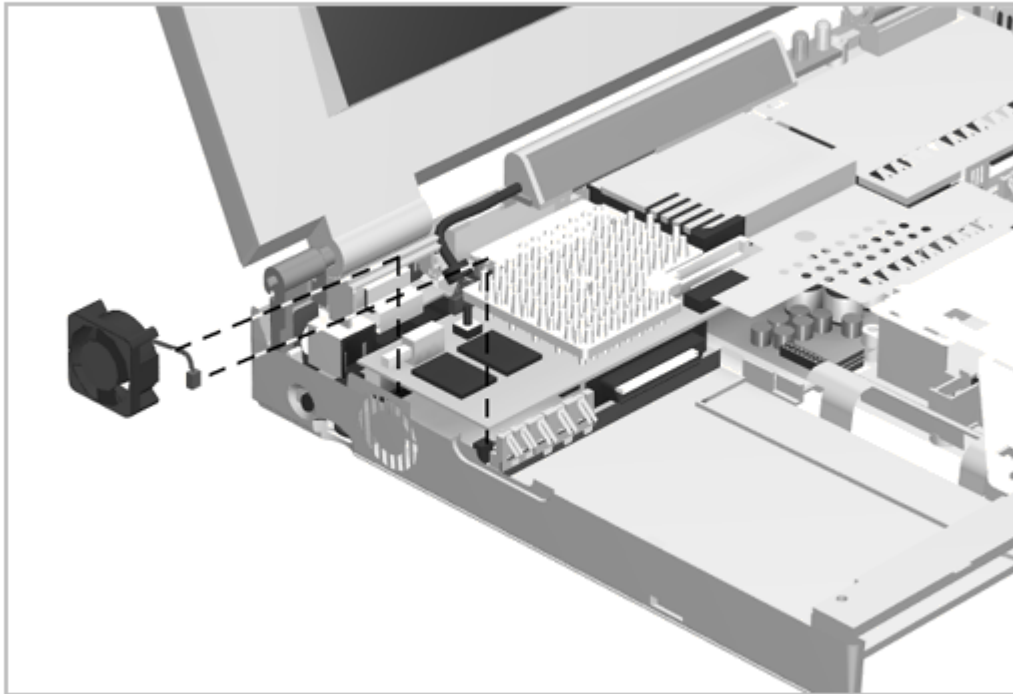

Figure 5-48. Removing the Fan
The cooling fan is mounted at the air vent on the left side of the computer and is plugged into the system board. After removing the CPU cover, the fan is easily removed by disconnecting the fan cable from the system board and lifting the fan out (Figure 5-48). To remove the fan, complete the following steps:
3. Disconnect the fan cable from the system board (Figure 5-48).